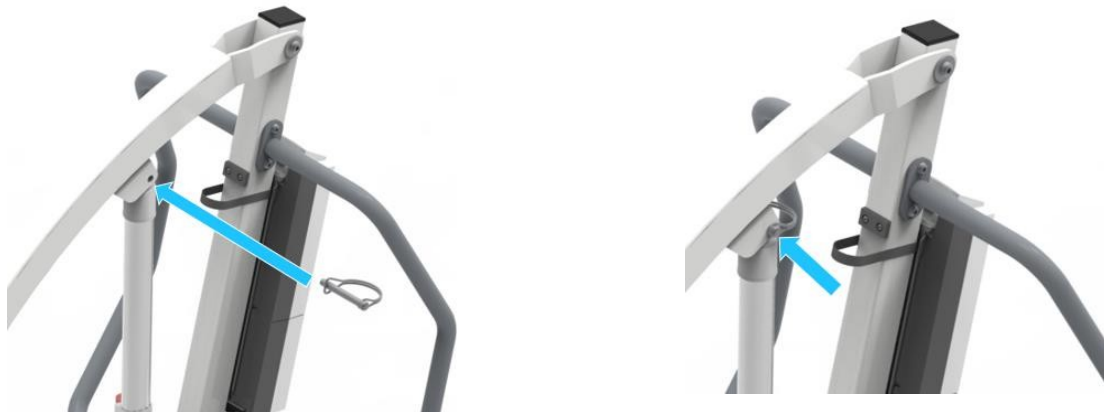

Figure 8 – Actuator attachment
- Tilt the actuator into its fixed position and secure it with a pin (Figure 8).